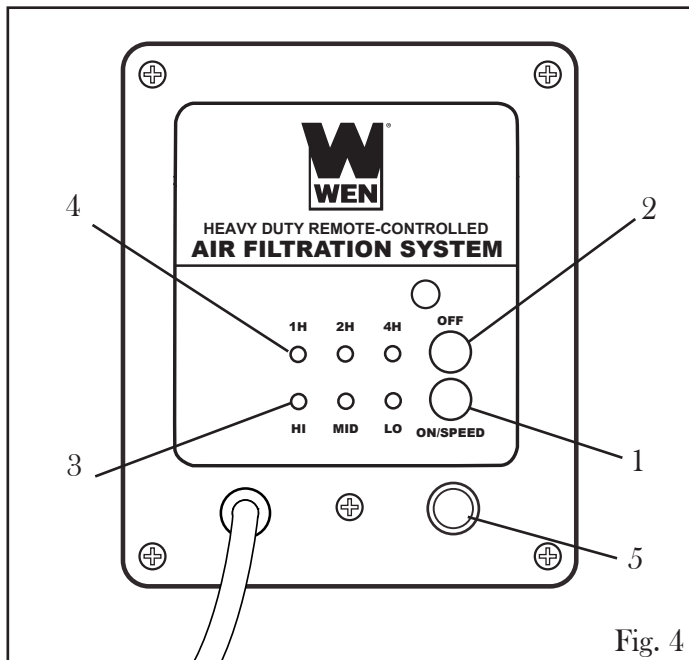
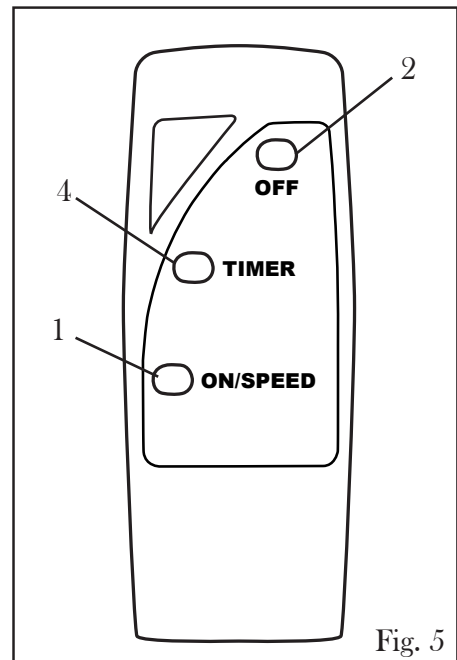

Fig. 4
Fig. 5
TURNING ON/OFF AND SETTING THE SPEED (Fig. 4 & 5)
2. Press the ON/SPEED button on the control panel (Fig. 4 - 1) or the remote control (Fig. 5 - 1) to power on the air filtration system. The air filtration system will start running at low speed. The “LO” LED will light up on the panel, indicating that the unit is operating at low speed.
3. The ON/SPEED button also controls the three different settings of the unit. Press the button to change the speed. The LED lights (Fig. 4 - 3) on the control panel will light up to indicate the selected speed - low speed (LO), medium speed (MID) or high speed (HI).
4. Press the OFF button on the control panel (Fig. 4 - 2) or the remote control (Fig. 5 - 2) to turn off the unit.
SETTING THE TIMER (Fig. 4 & 5)
1. Press the TIMER button (Fig. 5 - 4) on the remote control to start the timer. The cycle is 1 hour, 2 hours, 4 hours and clear the timer.
2. The LED lights (Fig. 4 - 4) on the control panel will indicate the amount of time selected. The unit will shut off automatically after the selected time interval elapses. When you clear the timer (no timer lights are showing), the air filtration system will keep running until it is turned off manually by pressing the OFF button.
The overload protector (4-Amp) shuts down the motor when it is overloaded. When this happens, let the motor cool down for a few minutes and press the overload protector button (Fig. 4 - 5) to reset. Dirty filters may cause the unit to overload. Check the filters regularly and replace as necessary (see page 9 “Changing the Filters”).